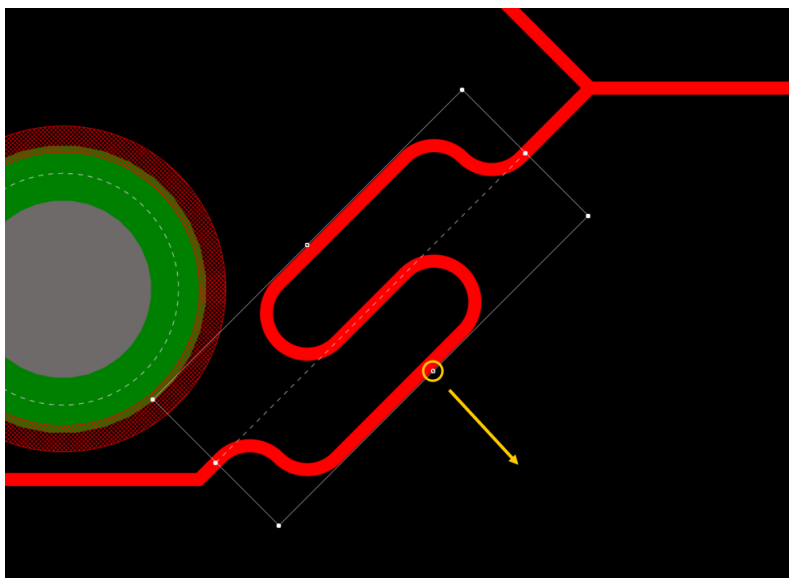

Figure 25. Adjusting the bounding box of the Length Tune
70. Once selected, you'll see the vertex points as shown in Figure 25.